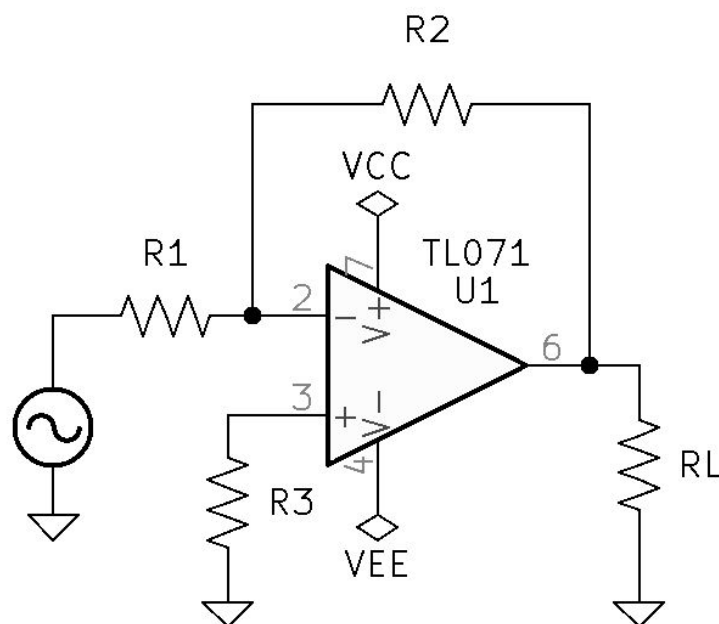

Figure 7.1: Inverting Operational Amplifier Circuit
1. See Figure 7.1 *Inverting Operational Amplifier Circuit*.